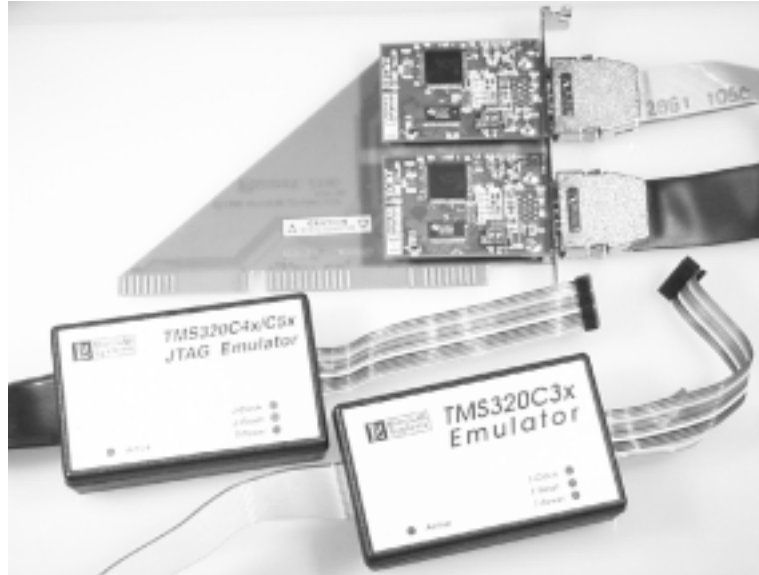
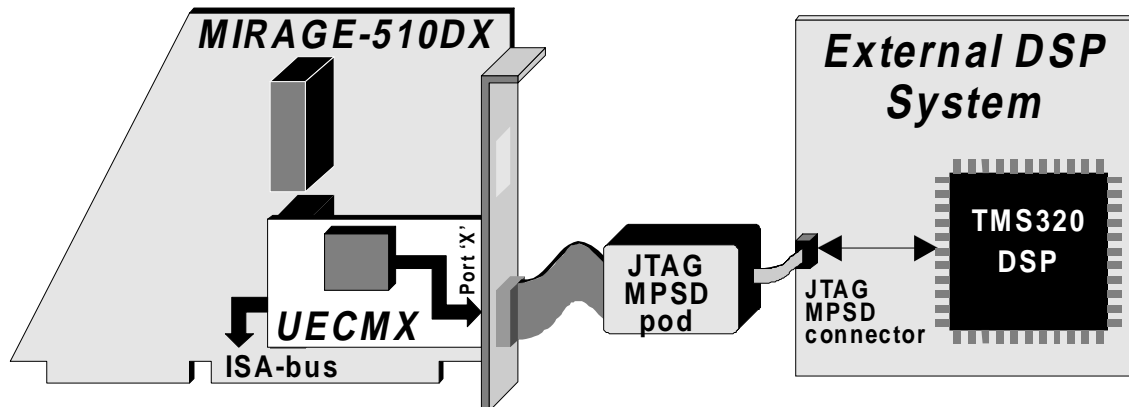
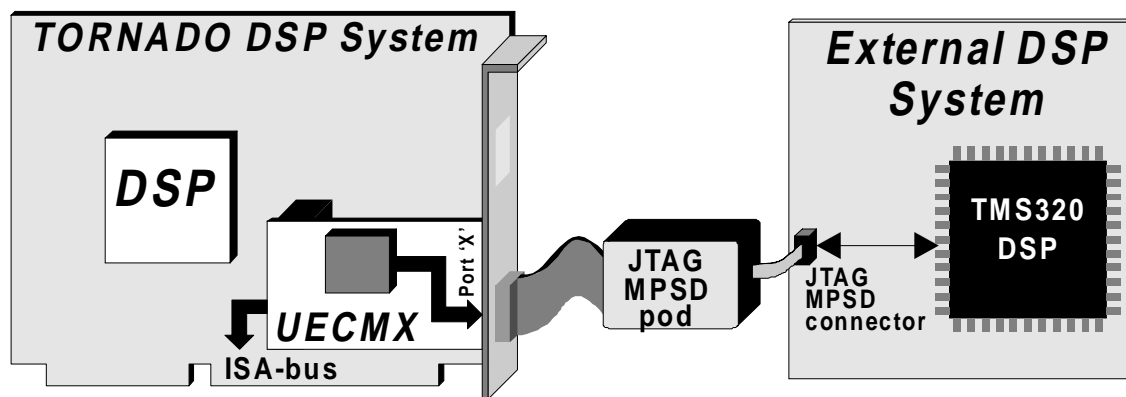

Fig.1-3. *MIRAGE-510DX* emulator ISA-bus interface mainboard with two *UECMX* modules and two pods.
Fig.2-4. Emulation of external TMS320 DSP via emulation port 'X' of *UECMX* in case *UECMX* is installed onto *MIRAGE-510DX* mainboard.
Fig.2-5. Emulation of external TMS320 DSP via emulation port 'X' of *UECMX* in case *UECMX* is installed onto *TORNADO DSP* system mainboard.
*UECMX* installs into the dedicated site either onto *TORNADO* DSP system mainboard (fig.1-2) or onto *MIRAGE-510DX* emulator ISA-bus interface mainboard (fig.1-3).
When *UECMX* is installed onto *MIRAGE-510DX* emulator mainboard (fig.1-3), it can emulate any external TMS320 DSP via JTAG or MPSD pod.
Emulation port 'X' is used when *UECMX* module is installed either onto *MIRAGE-510DX* emulator mainboard (see fig.1-3 and fig.2-4) or onto *TORNADO* DSP system mainboard (see fig.1-2 and fig.2-5) with the *UECMX* configured for emulation control of external TMS320 DSP. Emulation port 'X' of *UECMX* assumes connection to target TMS320 DSP via optional JTAG or MPSD pod (see the corresponding section below in this chapter for detail information about JTAG and MPSD pods).
When *UECMX* is installed onto *MIRAGE-510DX* emulator mainboard (see fig.1-3 and fig.2-4), it can emulate any external TMS320 DSP via JTAG or MPSD pod using on-board emulation port 'X' only. Emulation port 'L' is not used when *UECMX* is installed onto *MIRAGE-510DX* emulator mainboard.
When *UECMX* is installed onto *MIRAGE-510DX* mainboard (see fig.1-3 and fig.2-4), and *UECMX* is configured to run in the *UECM/MIRAGE-510D* emulation compatibility mode, then host control over activity of *UECMX* on-board emulation controller is available via host utility software *UECMXCC.EXE*, which is included with *UECMX*.
When installed onto *TORNADO* mainboard (see fig.1-2), *UECMX* can emulate either *TORNADO* on-board TMS320 DSP without pod (see fig.2-3) or any external TI TMS320 DSP via optional MPSD or JTAG pod (see fig.2-5).
When *UECMX* is installed onto *TORNADO* DSP system mainboard (see fig.1-2) and is configured to emulate external TMS320 DSP (see fig.2-5), then this can be performed via optional MPSD or JTAG pod that should be connected to the emulation port 'X' of *UECMX* on one side and to target DSP on the other side. This is similar to that when *UECMX* is installed onto *MIRAGE-510DX* mainboard.
- *UECMX* is installed onto *TORNADO* DSP system mainboard (see fig.1-2 and fig.2-5) and is configured to emulate external DSP
- *UECMX* is installed onto *MIRAGE-510DX* mainboard (see fig.1-3 and fig.2-4).
MPD pod is used when *UECMX* is either *UECMX* is installed onto *MIRAGE-510DX* mainboard (see fig.1-3 and fig.2-4) or when *UECMX* is installed onto *TORNADO* DSP system mainboard (see fig.1-2 and fig.2-5) and is configured to emulate external DSP.
JTAG pod is used when *UECMX* is either *UECMX* is installed onto *MIRAGE-510DX* mainboard (see fig.1-3 and fig.2-4) or when *UECMX* is installed onto *TORNADO* DSP system mainboard (see fig.1-2 and fig.2-5) and is configured to emulate external DSP.